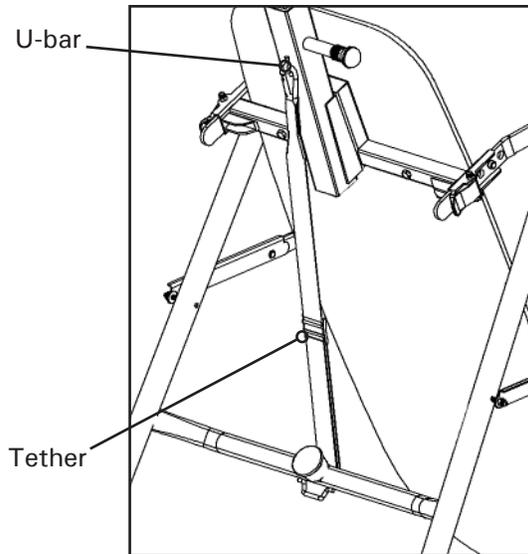

Figure 17
- Unfold the adjustable Tether and clip it to the U-bar on the underside of the Bed Mat (Figure 17).